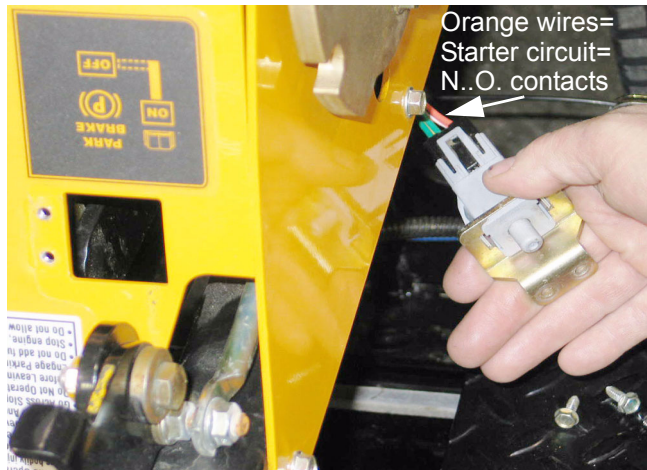

Figure 29.5
- 29.5. Power passes from the PTO switch to the N.O. contacts on the brake switch through the orange w/black trace wire. See Figure 29.5.